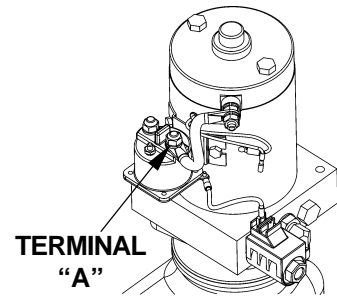

FIG. 6
1. Use voltmeter to verify that power is being supplied to Solenoid Terminal "A". Recharge the battery if voltmeter indicates less than 12.6 Volts (**FIG. 6**).